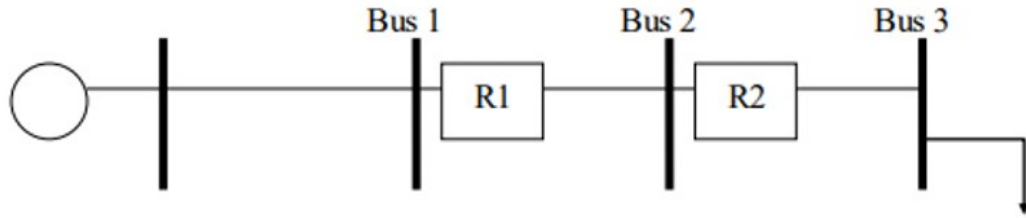

Fig Q5
- a) Study the system Fig Q5 below: